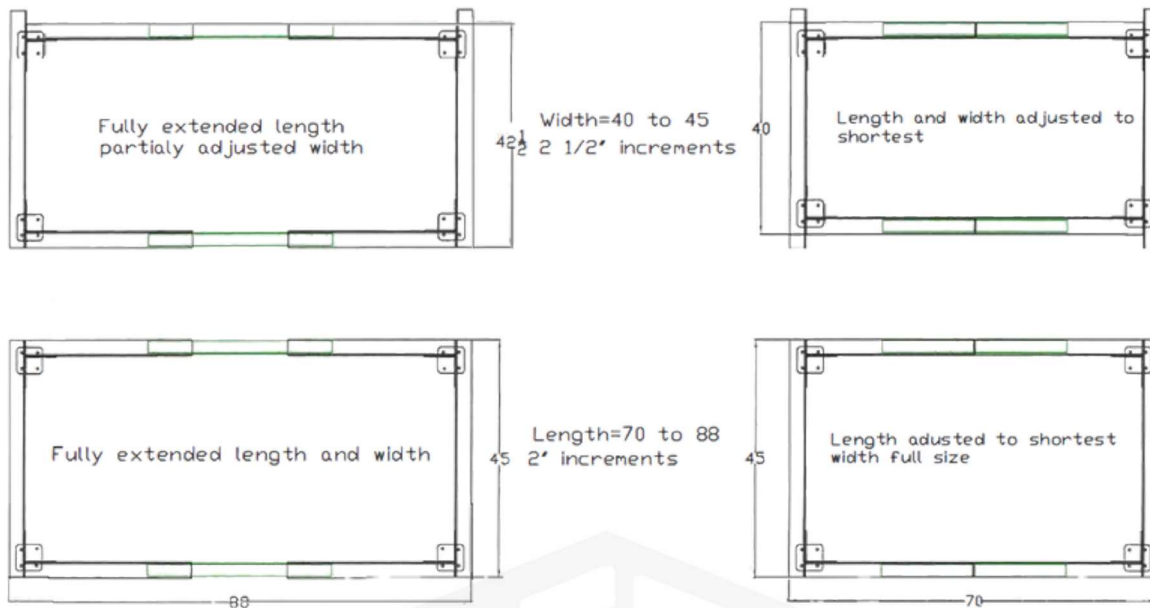

Figure 4. Dolly Configurations
Step 2: Measure your camper basement to determine which orientation you need. The width of the dolly can be adjusted from 40 to 45 inches with increments every 2.5 inches. The length can be adjusted from 70-88 inches with 2-inch increments (Figure 4).